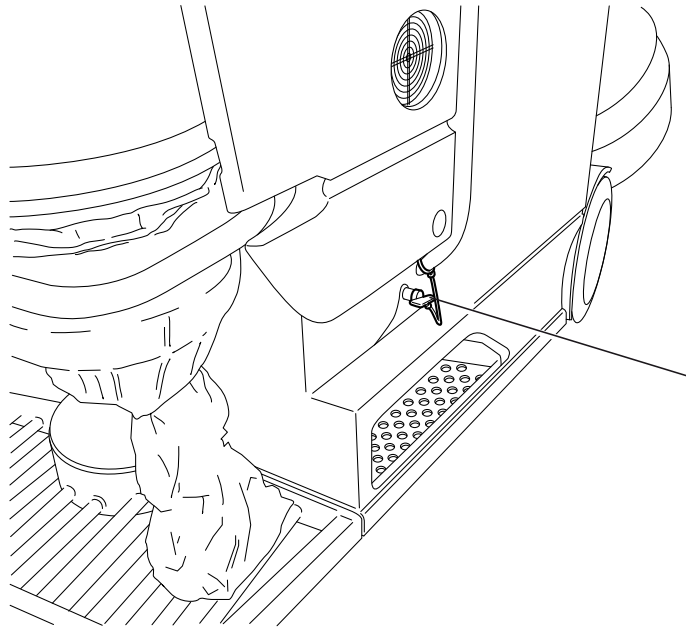

Figure 4-8 Main switch
The machine is equipped with a red main switch on the right between the chassis and the dust separator, see Figure 4-8 on page 33. It must always be pulled out at the end of the working day and when replacing tools and carrying out maintenance on the machine.
- Check that the main switch is in its socket, see Figure 4-8 on page 33.